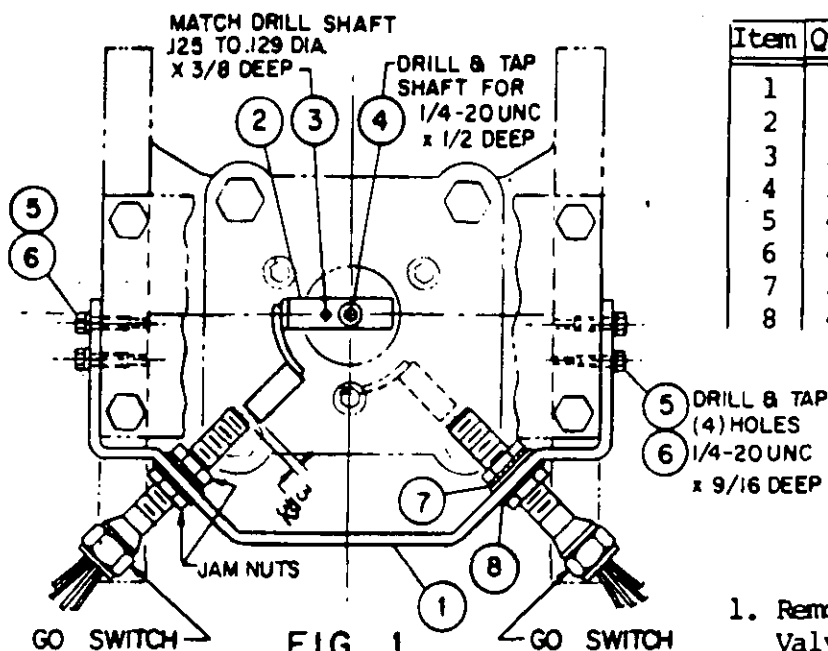

FIG. 1
4. Place Switch Activator (item 2) on shaft and secure with flat head screw (item 4). Then orient Switch Activator as shown in figure 1. Match drill shaft with hole in Switch Activator and drive roll-pin (item 3) into hole to prevent rotation.
5. Fit Mounting Bracket (item 1) to sides of Actuator mounting plate support and mark location of four mounting holes, drill and tap four 1/4-20UNC x 9/16 dp. Then secure Mounting bracket (item 1) with items 5 & 6.
6. Insert GO® Switches into slots on Mtg. Bracket (item 1) and secure with two jam nuts that come with switches and washers items 7 & 8.
7. Adjust Switches to sense Activator (item 2) in full open and full closed positions.